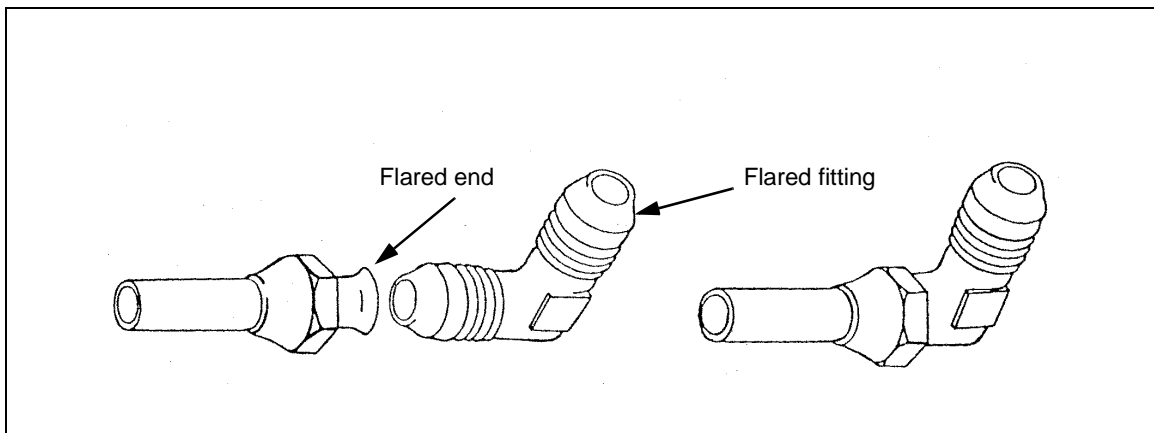

Figure 6-38. Flared Joint
Step 4. Slide the flare/compression nut up to the flared end and screw it on the fitting hand tight, then tighten the flare/compression nut (*Figure 6-38*).